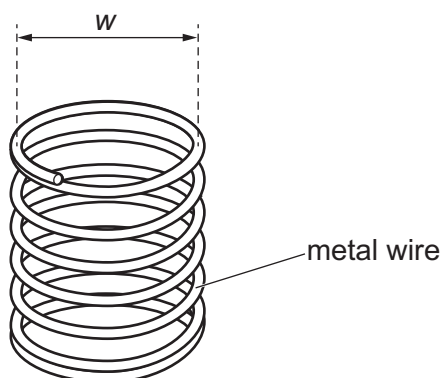

Fig. 1.1
- 1 A student investigates a spring of width w made from a metal wire, as shown in Fig. 1.1.